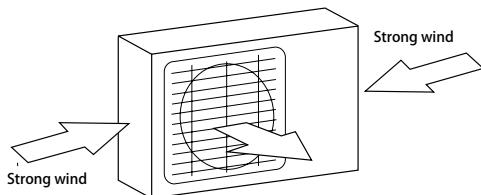

Fig. 5.1
- ☒ If the location is exposed to strong winds (for example: near a seaside), the unit must be placed against the wall to shelter it from the wind. If necessary, use an awning. (See Fig. 5.1 & 5.2)